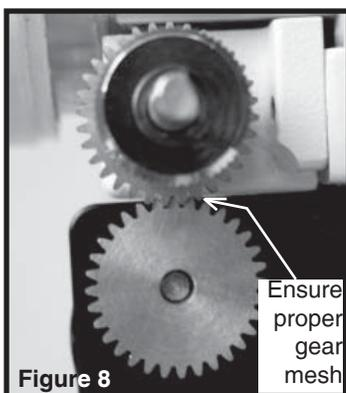
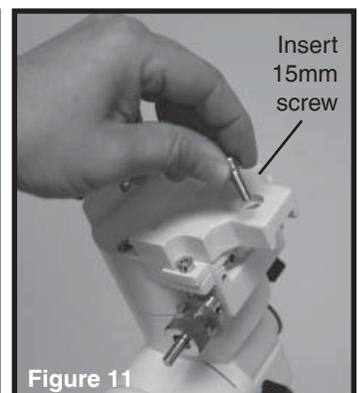

Figure 8
Figure 11
3. Place the Dec motor assembly against its mounting plate and insert the 15mm long hex screw on the top side hole lightly securing the motor assembly in place using the 5mm hex wrench. See Figure 11. Adjust the motor assembly until the two brass gears are aligned before firmly tightening the screw. See Figure 8 & 12.